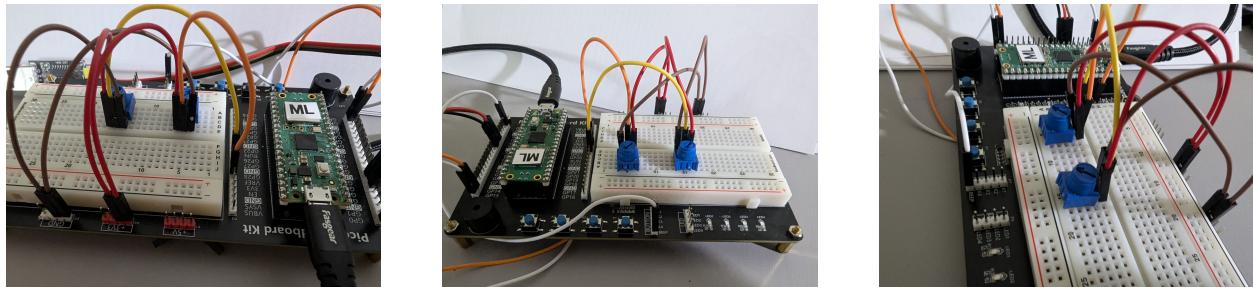

Figure 4: Connecting the potentiometers
- Leave a little space between the two pots (see Figure 4).